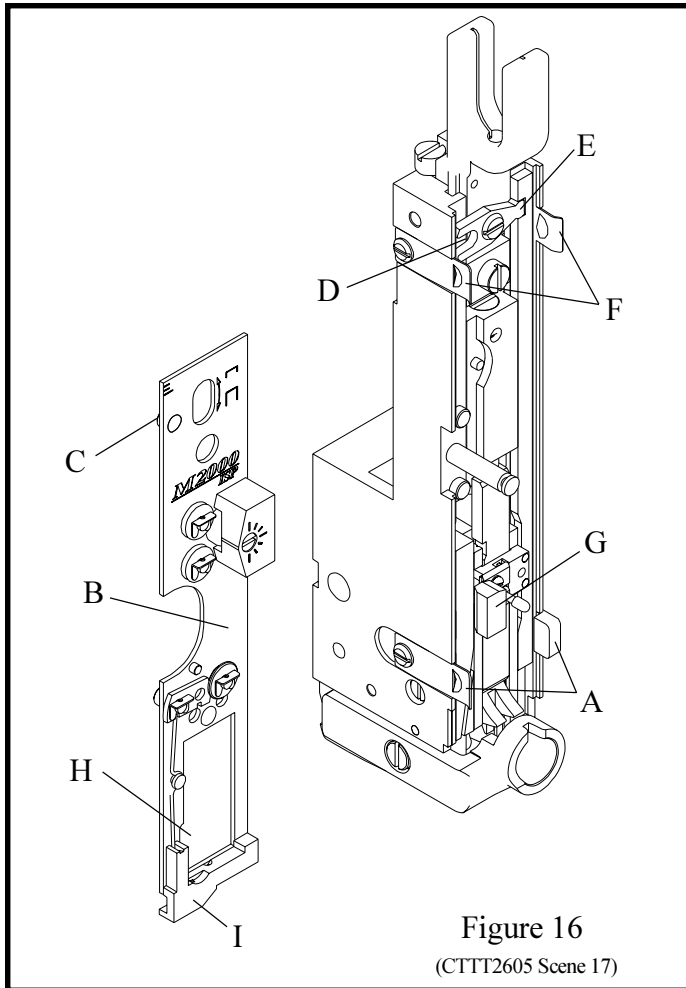

Figure 16
NOTE: (Figure 16)
7. Loosen the two face plate retaining clips (Index A, Figure 16) and rotate them downward.